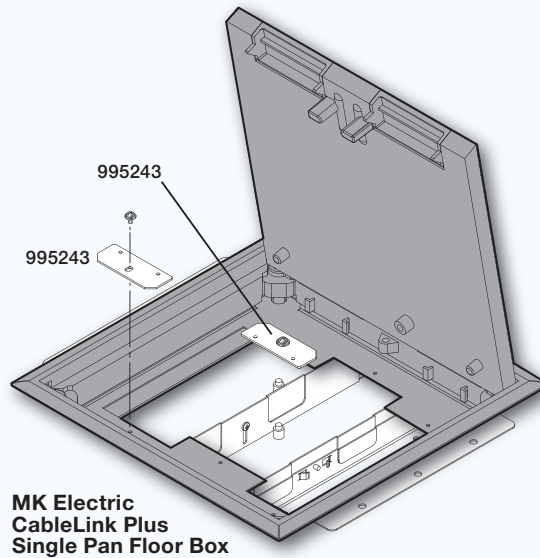

Figure 4. Installing 995243 Adapter Plates
- The MK Electric CableLink Plus Single Pan floor box does not have mounting slots. Use a mounting screw to secure the large mounting hole of the 995243 adapter plate to the mounting hole of the floor box position (see figure 4).